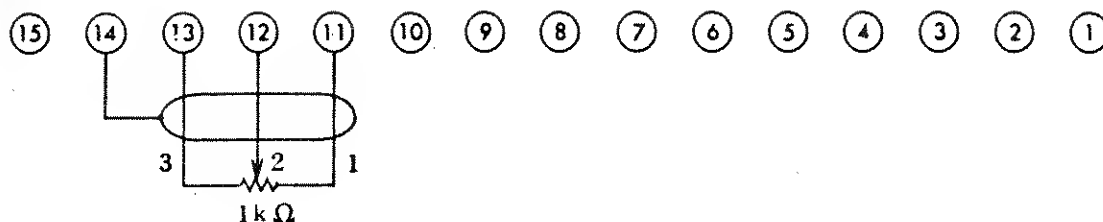

Figure 2-12-3
3. Connect a 1 k Ω variable resistor to the terminal board on the rear panel, as shown in Fig. 2-12-3. The variable resistor should be a 10-turn potentiometer.